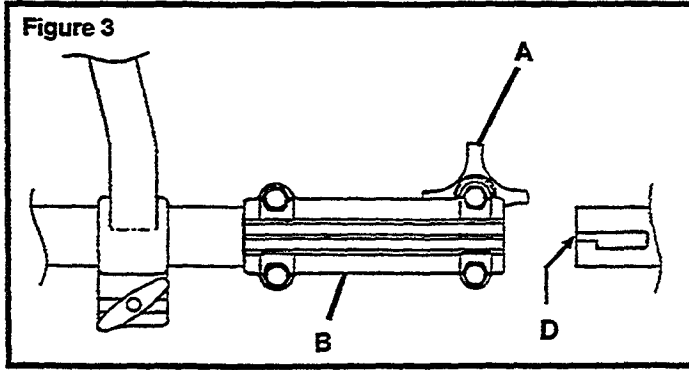
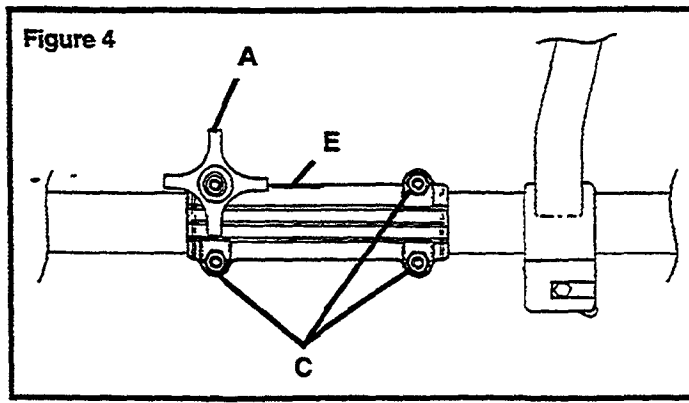

Figure 3
Figure 4
- First, loosen the knob (A) near the open end of the coupler (B). It is not necessary to loosen the other three (3) screws (C).
- Position the slot (D) of the lower tubes as shown in Figure 3 and slide the lower unit into the coupler until the tubes of the power unit and lower unit solidly meet inside the coupler. Rotate lower tube to lock in place. By looking in the slot (E) (Figure 4) on the top, see that both tube ends are abutted together before re-tightening the knob. The inner drive shafts will align themselves.